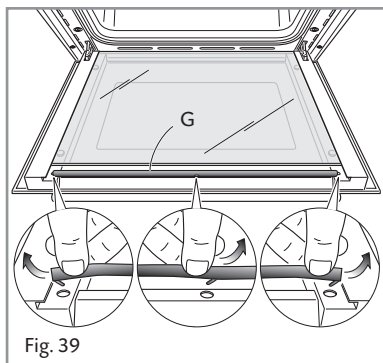

Fig. 39
- Remove the seal G by unhooking the no. 3 fixing hooks (fig. 39).